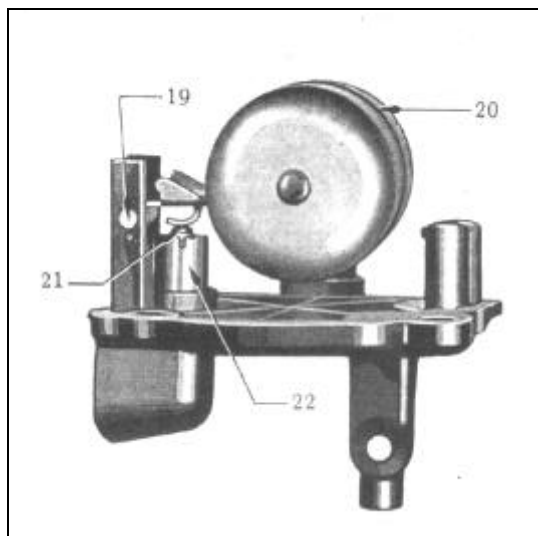

Figure 423
(98) Remove float lever pin (19) and float and lever assembly (20). (Figure 423.)
(99) Remove needle (21) and needle seat assembly (22). (Figure 423.)
(137) Install needle seat assembly (22) in bowl cover and intake needle (21) into needle seat (Figure 423). If intake needle or seat shows wear or damage, replace both parts as needle and seat come in matched sets. Install float and lever assembly (20) and float pin (19).